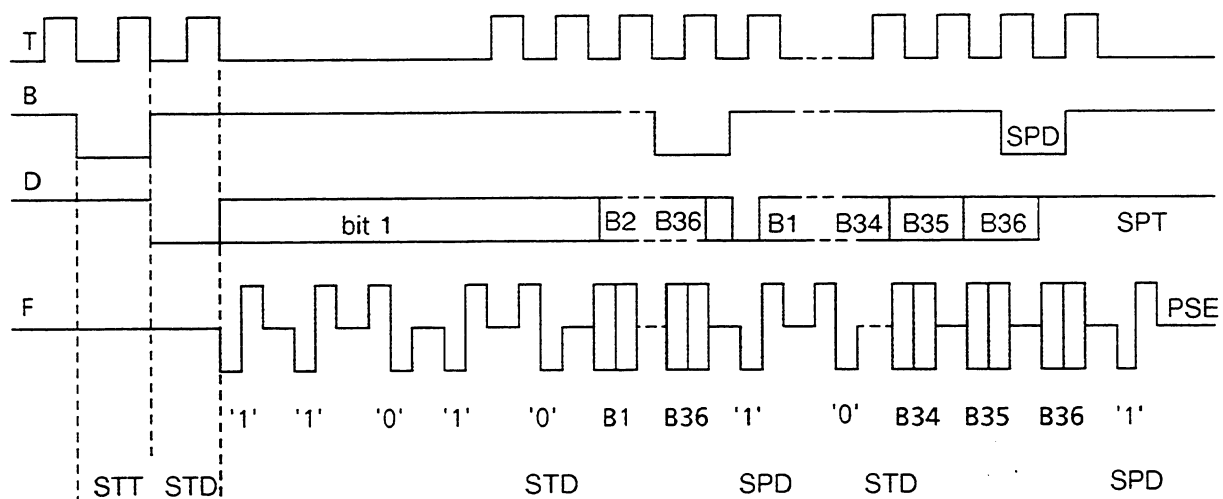

Fig. 6.1 Remote bus line protocol in data transfer (4-byte element)
The bus is in the idle state after switching on, i.e. the qualifier and data lines are always in the "H" state and all participants together generate a clock (T) on the clock line. The start of a message (consisting of 1, 2 or 4-byte elements) is signalled on the local bus by the sequences "STT" (start transfer) and "STD" (start data) at the start of the transfer element as in Fig. 6.1.
Once the converter has recognized both signals, it starts transmitting a synchronization character on the remote bus consisting of the bit sequence "1101" (Fig. 6.1). The local bus clock is stopped during this time by the converter.
The end of a message is signalled on the local bus by the bit combination "stop data" (SPD) and "stop transfer" (SPT), resulting in a minimum pause (PSE) of four bits on the remote bus during which the local bus clock is stopped (Fig. 6.1). If larger intervals exist between the messages (larger than 4 bits + sync time), the pause reverts to the idle state .
- Detection of the remote bus signal and the local bus data signal (Fig. 6.1):
- Detection of the data and qualifier signals on the local bus (Fig. 6.1):